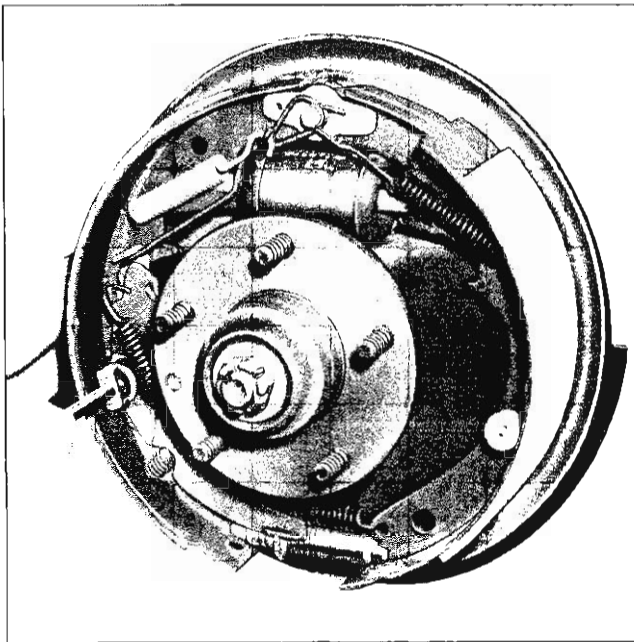

Fig. 7—Removing Hold-Down Springs and Pins
7. Remove hold-down pins and springs (fig. 7).